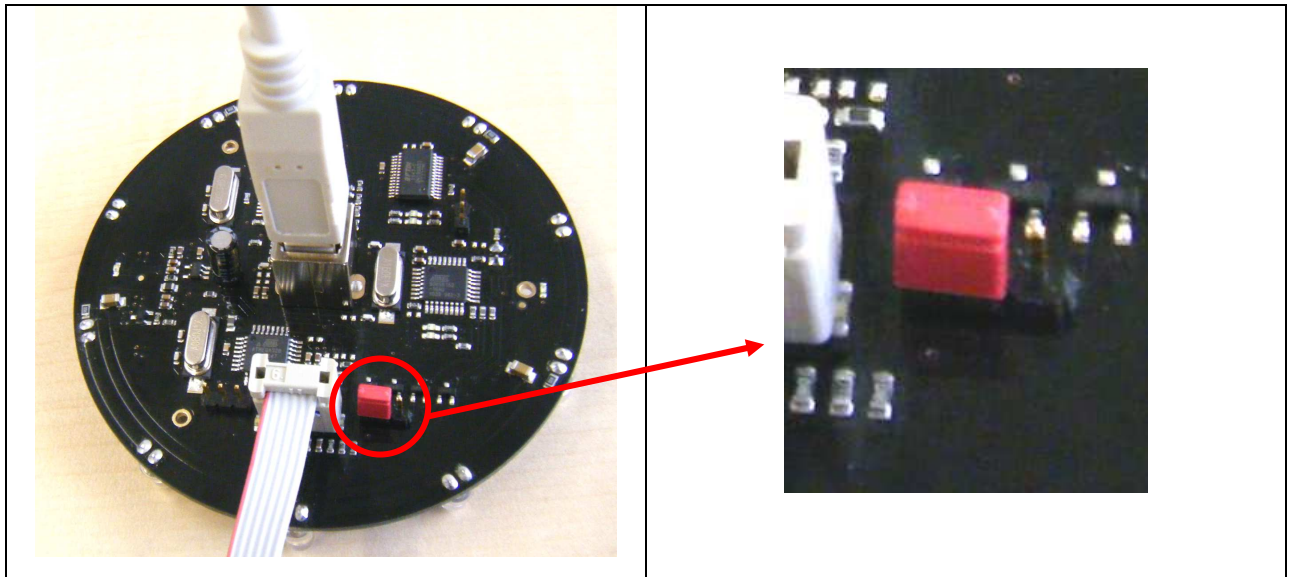

Figure 4.6: firmware jumper: normal mode
1. Check that the firmware jumper is plugged at the correct place (figure 4.6).